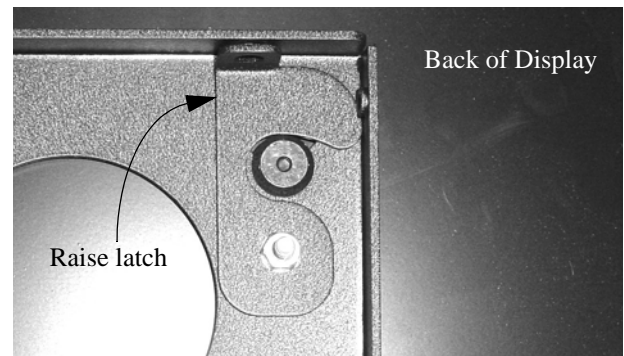

FIGURE 3. RAISE LATCH
4. Secure the display to the PWL/PWP by completely engaging the latch (see Figure 3).